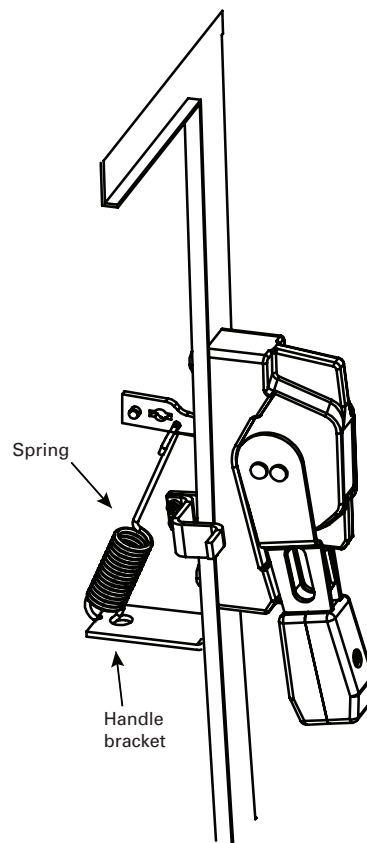

Fig. 1-2. The spring attaches between the handle bracket and handle as shown. Install spring after adjusting threaded rod in Part 3, Step 5.
Refer to Fig. 1-1 and Fig. 1-2.
Step 5. Attach the spring to the handle bracket and handle as shown in Fig. 1-2 after the threaded rod is installed in Part 3, Step 5.